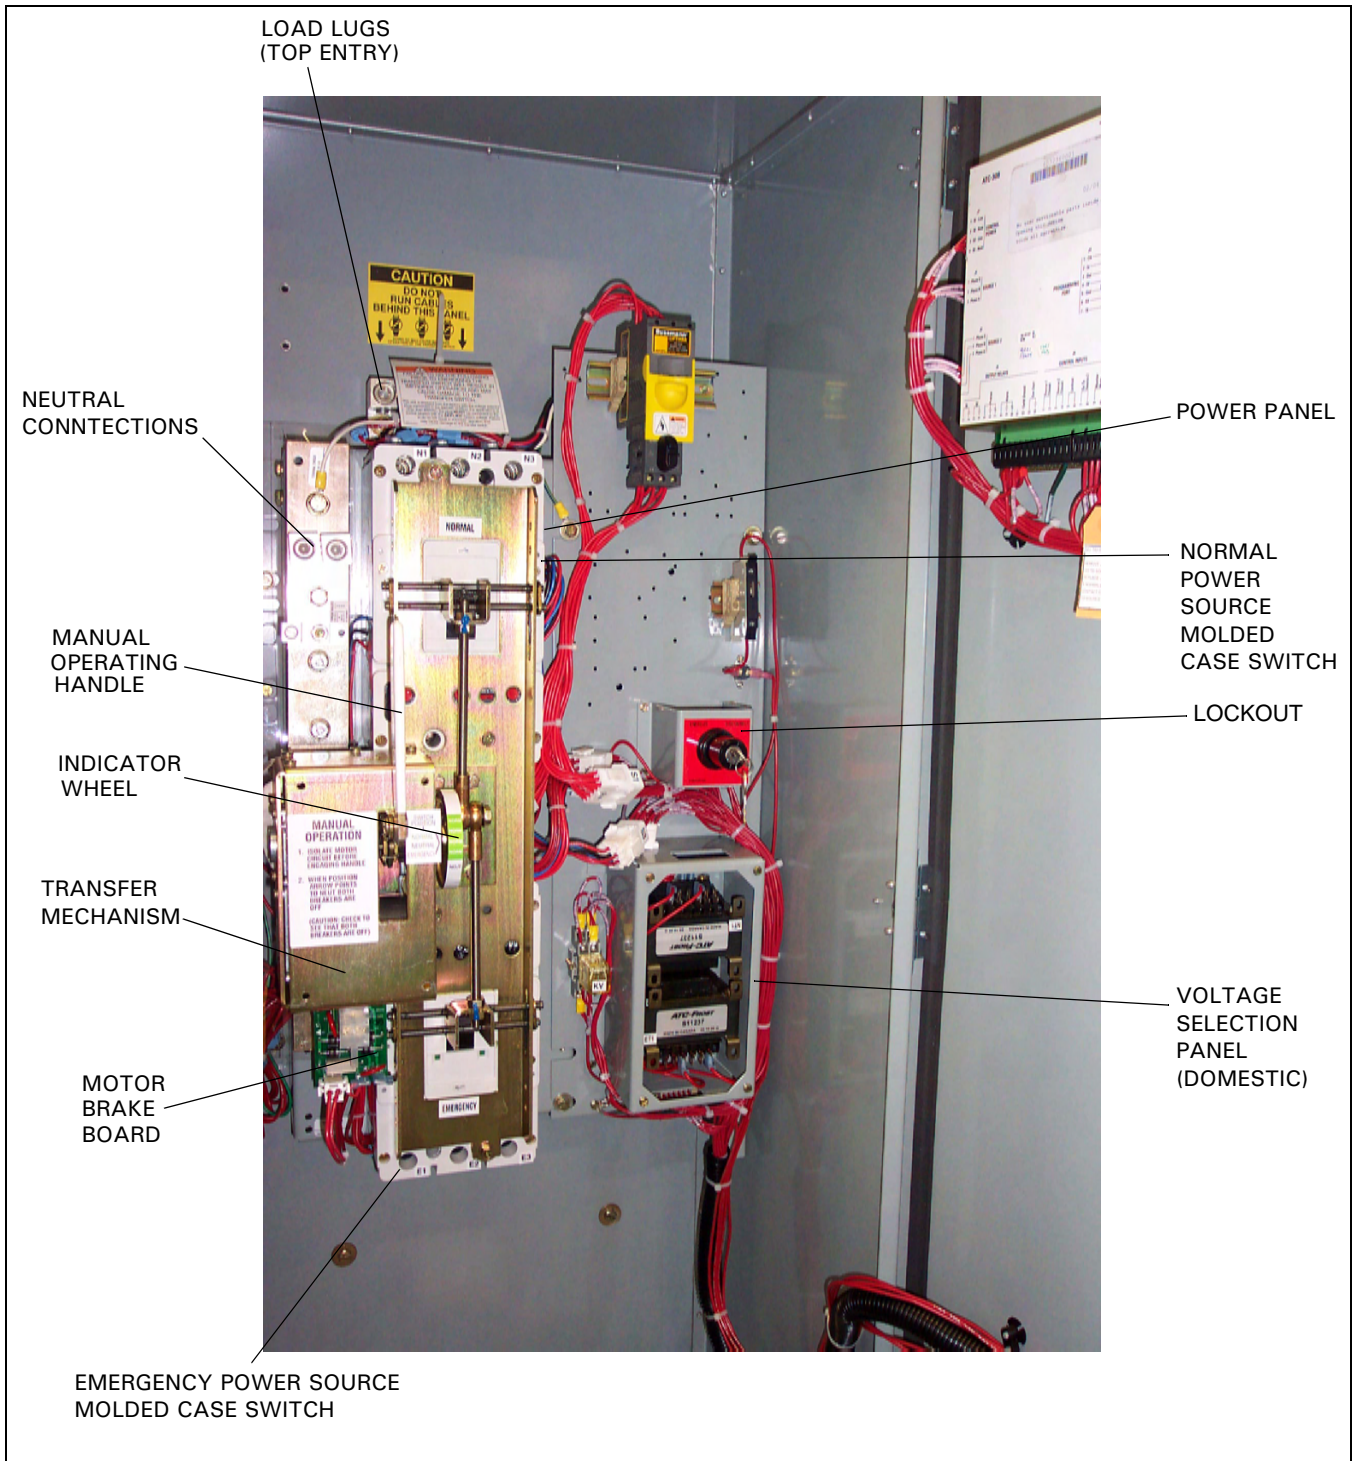

Figure 38. 300 A, 3-Pole, ATS Interior Components.
For 4 pole transfer switches, connect the load cables (TN), Source 1 or utility supply (NN), and Source 2 or generator supply (EN). Refer to Figure 38 for the location of all parts discussed in this document.
\* Load cables on switches using the vertical design MUST be connected and torqued BEFORE installing the SUPPLY cables (Figures 38 and 39).